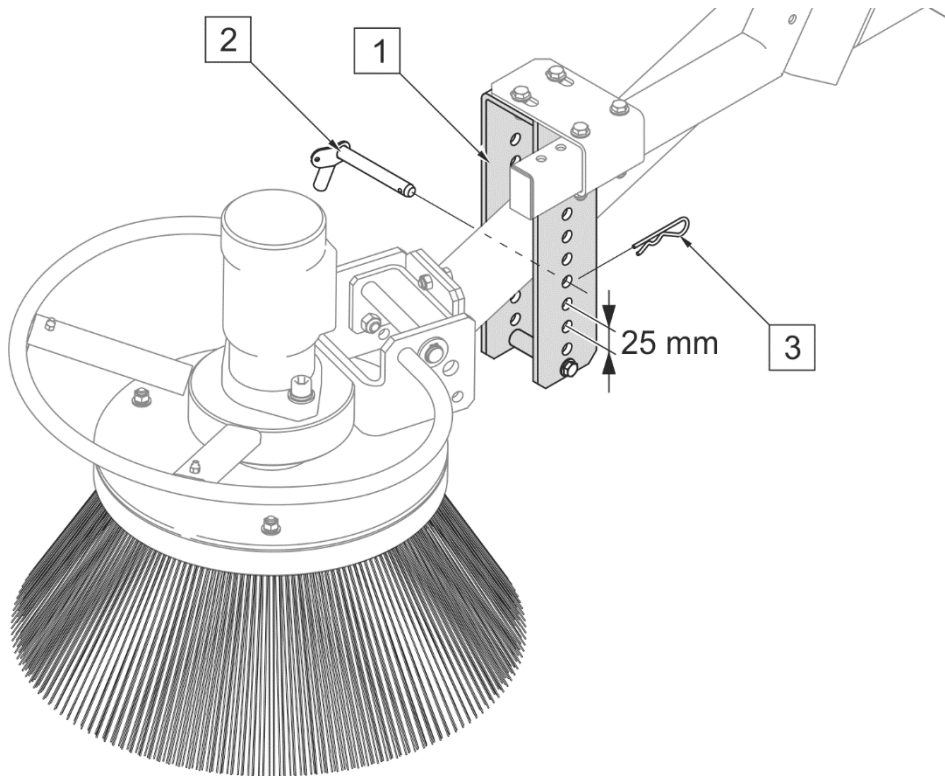

FIG. 5.4 Adjusting side brush pressure
To set the brush pressure (FIG. 5.4), remove cotter pin (3) and change pin (2) mounting hole in bracket (1) and secure with cotter pin (3).